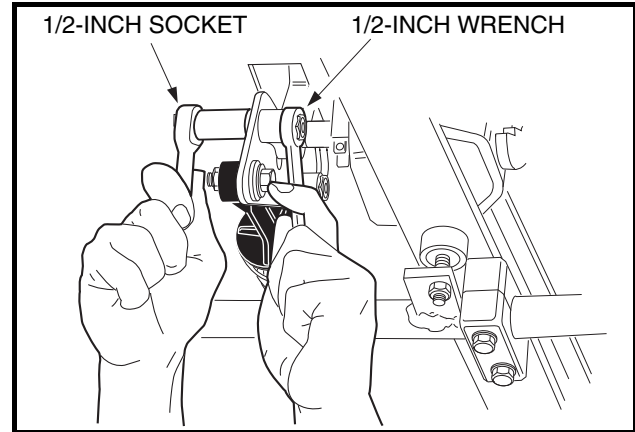
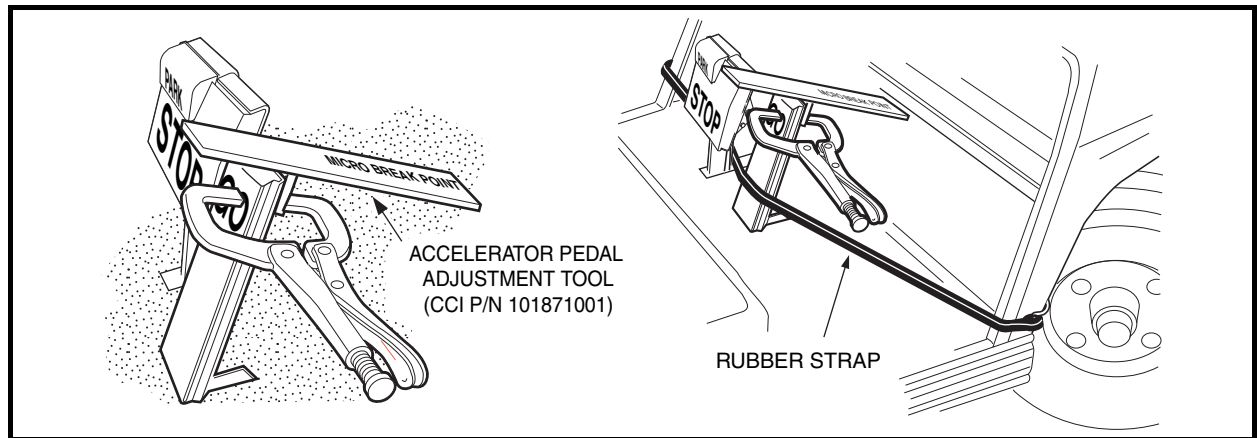

Figure 5-17 Accelerator Pedal Height Adjustment
Figure 5-18 Accelerator Pedal Height Adjustment
- 4.1. Loosen the nut and bolt (Figure 5-17, Page 5-14) securing the accelerator pedal to the pivot plate. Clamp the accelerator pedal adjustment tool (CC P/N 101871001) to the accelerator pedal, with the end marked 'accelerator pedal height' closest to the floorboard. Press the accelerator pedal until the end of the tool rests against the floorboard; pedal height should be 5-5/8 inches (14.3 cm). Use a rubber strap to hold pedal in position against the floorboard and then tighten nut to 26 ft-lb (35.3 N·m) (Figure 5-18, Page 5-14).